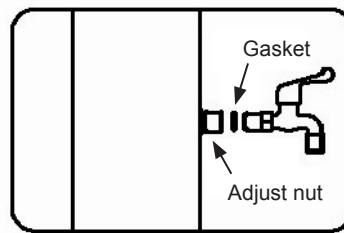

FIGURE 2
4. If shower is with footwash, connect footwash to shower body tube with the adjust nut. (FIGURE 2)